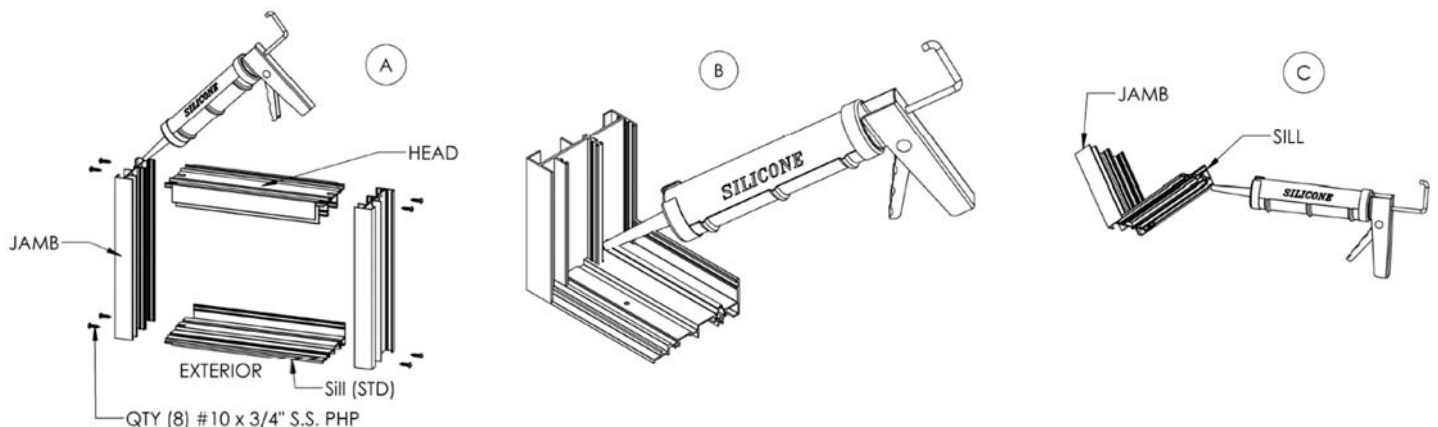
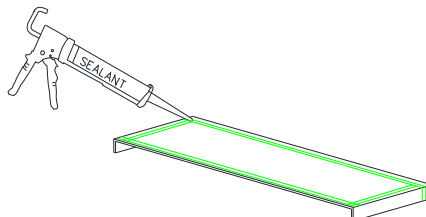

Figure 5:
Figure 8:
1. Add sealant to the upper corners of the jamb(s) and to the end of the head that is compatible to the entire assembly as shown in Figure 5, Detail A.
4. After frame has been assembled make sure ample sealant is forced in and around each contour at all four corners as shown in Figure 8, Detail B. Seal outside corners from underneath threshold as shown in Figure 5, Detail C.